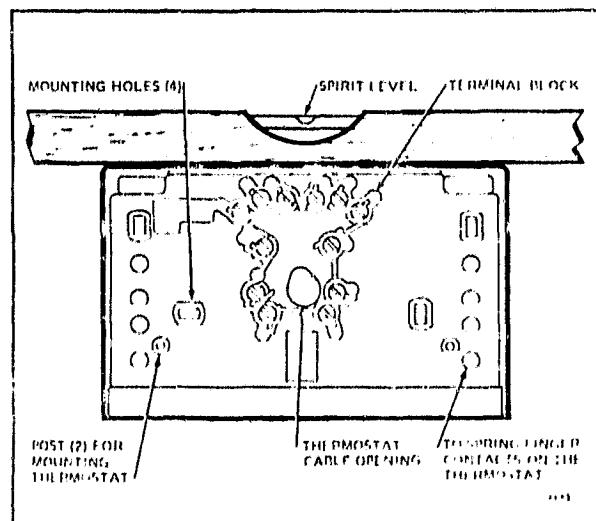

FIG. 4-LEVELING THE SUBBASE.
5. The subbase mounting slots provide for minor out of level adjustments. Level the subbase using a spirit level, as shown in Fig. 4 and tighten subbase mounting screws.